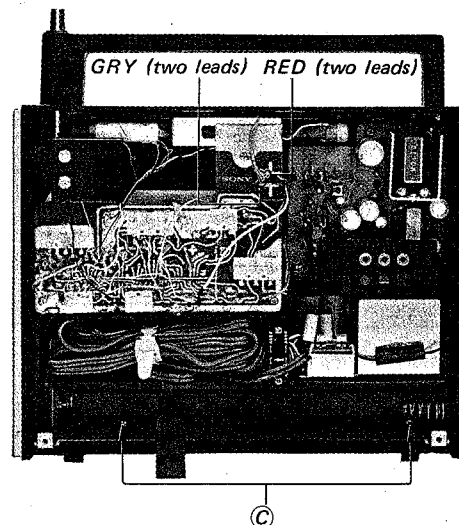

Fig. 2-3 Chassis removal, steps 5 and 6
5. Unsolder the four leads, GRY and RED, in Fig. 2-3.
6. Remove the two screws labeled (C) in Fig. 2-3.